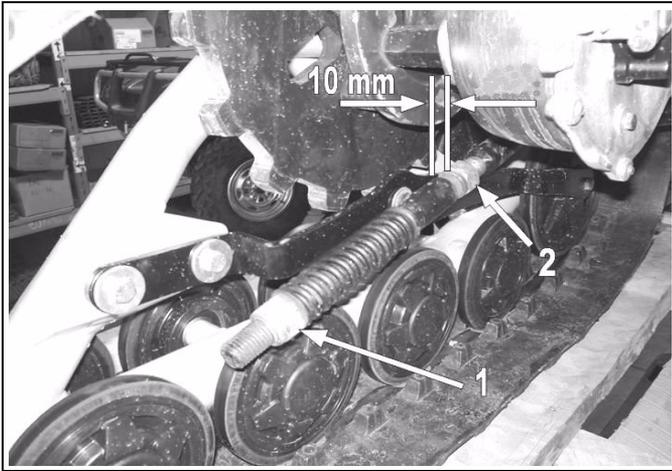

Figure 7
- Loosen the nut (1) compressing the spring of the stabilizing rod (see Figure 7).
- Set the nut (2) to obtain a distance of 10 mm as shown.
- Turn the nut (1) until it comes in contact with the spring, then compress the spring by turning this nut 1.5 turns.